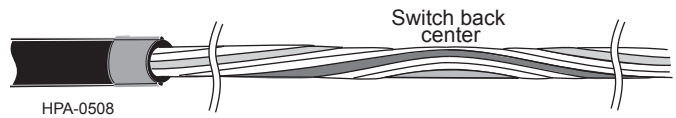

Figure 23
**Step 9:** Locate the switch back center where the direction of the buffer tubes' wrap around the central member switches to the opposite direction (Figure 23).